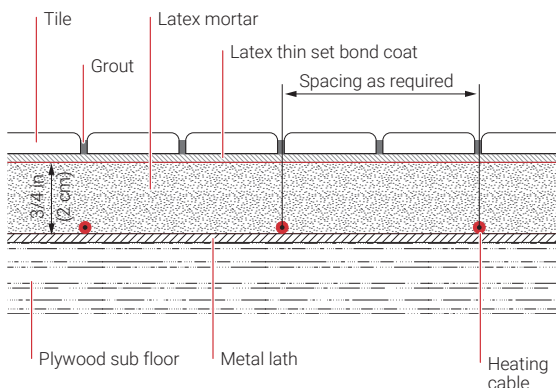
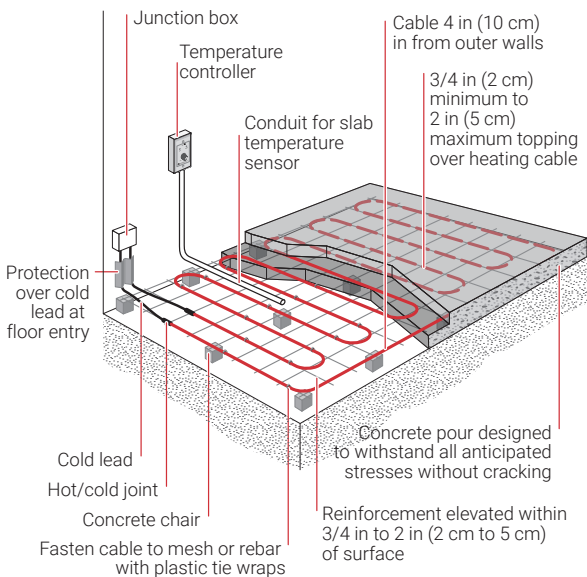

Figure 14: Typical installation on wooden subfloor
Figure 15: Typical single pour concrete floor installation
3. **Single-pour:** If supporting cable on the reinforcement, ensure that the concrete thickness over the cable will not exceed 2 in (5 cm). Refer to Section 2.10 and Figure 15 for further details. If installing the heating on a wooden subfloor, cover the subfloor with metal lath. Ensure edges butt together, but do not overlap (Figure 14).
Two-pour: Install prepunched strapping at 30 in (76 cm) intervals on the base slab with additional runs, where required, to hold cable loops securely. Fasten the strapping to the concrete base using an appropriate fastening method (see Section 2.10). Ensure that the concrete thickness over the cable will not exceed 2 in (5 cm). Refer to Figure 15 for further details.